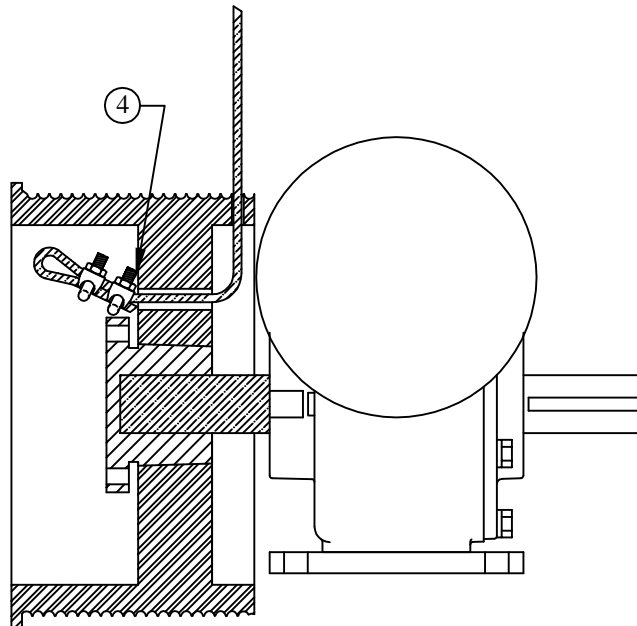

FIG 8-1
- 8a.** Insert one end of the hoisting cable through the face of the drum. Hole in face of drum is drilled at factory. Then thread hoist cable through the hub of the drum. Terminate end of cable with cable clips supplied. **See Fig 8-1**